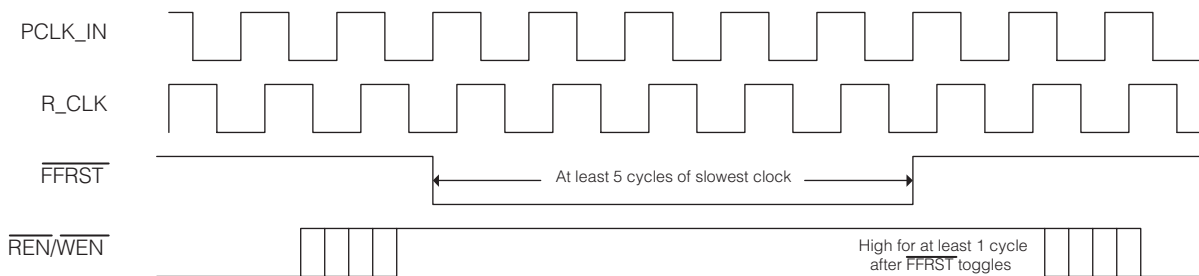

Fig. 16 Recommended External FIFO Reset Process
In external FIFO control mode, the internal FIFO address pointers are reset to zero (0) using \overline{FFRST} . A recommended external reset process is shown in Figure 16.